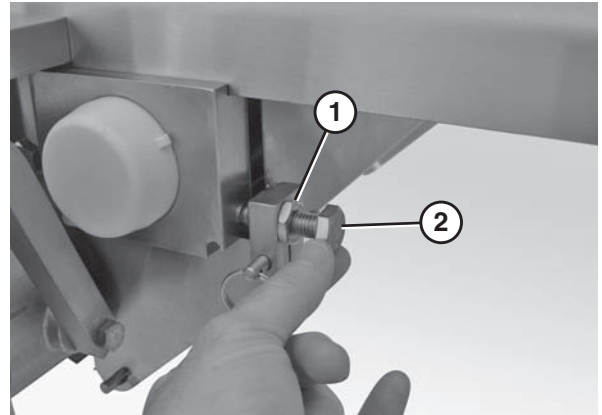

Figure 55
1. Loosen the guide plate nuts (**Figure 55, item 1**) on the infeed side of the center drive assembly.
2. Tighten the guide plate bolt (**Figure 55, item 2**) to move the belt away from that side of the conveyor.